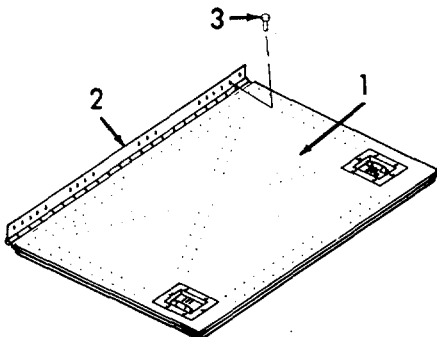

Figure 6-11. Side Door, Installation..
- (a) Remove nut (1), washer (2), and screw (3) that secures the stay (4) to the door (5).
- (b) Remove the stay (4).
- (c) Place stay (4) into position.
- (d) Install screw (3), washer (2), and nut (1) to secure stay (4) to door (5).
e. Installation (Refer to Figure 6-11).